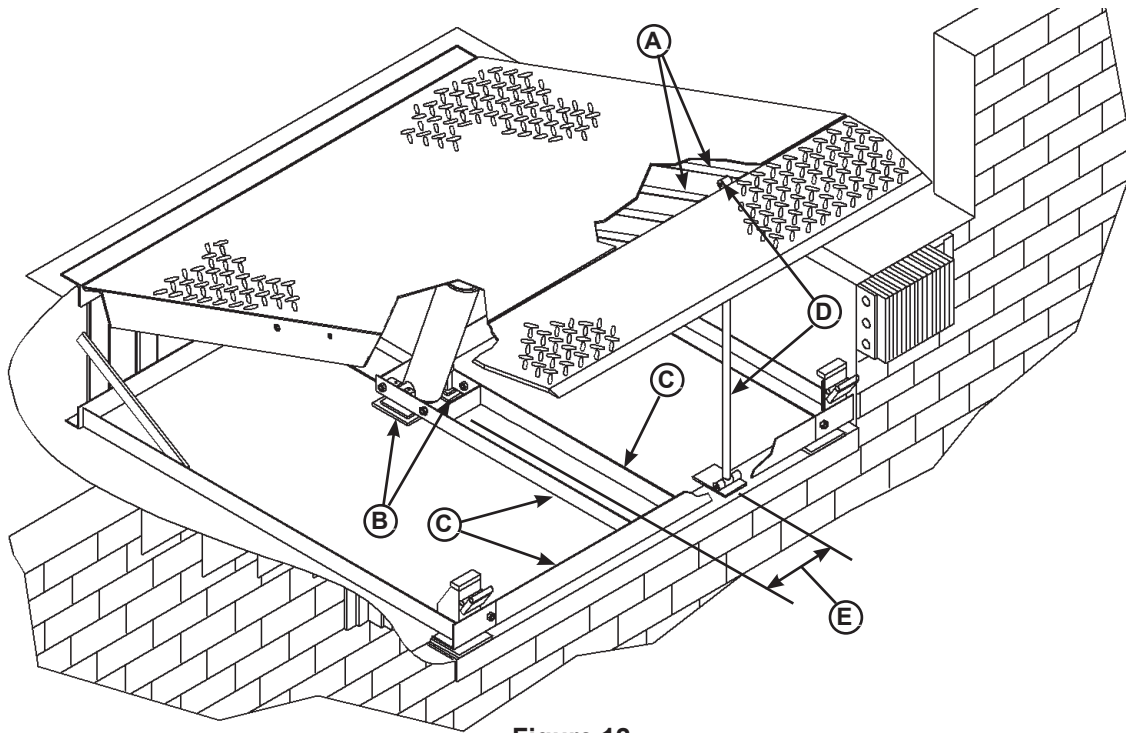

Figure 12
- Remove maintenance prop (D) from the shipping location on dock leveler frame.
*CleanPit model shown in Figure 12.
c. Position base of maintenance prop (D) so center of prop is approximately 8-1/2 in. (216 mm) (E) to left** of dock leveler center. Adjust position of prop base so opposite end of prop will go between the platform joists (A) when prop is fully raised. The prop must not contact the joists, wiring, or other components.